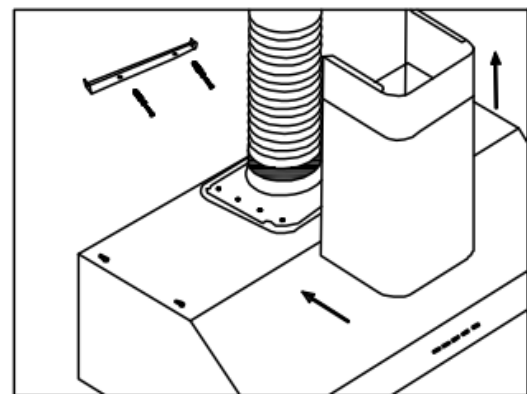

Figure 8
- The farthest distance between the power line and the power socket should be no more than 59". Make sure the power line has a reliable power supply system (refer to figure 8).